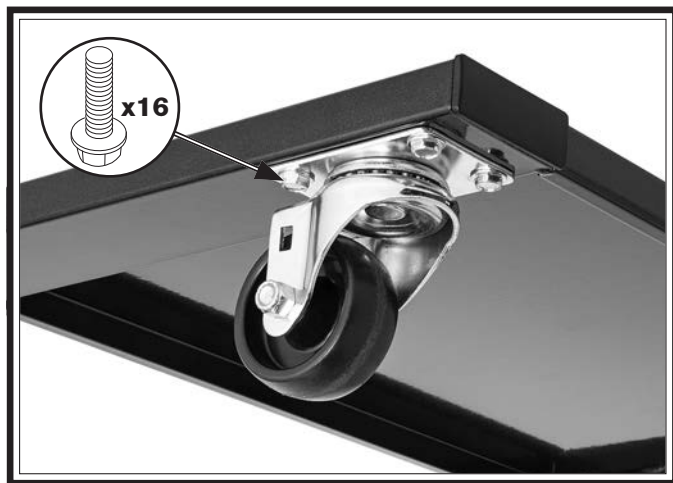

Figure 9. Swivel caster attached to base.
1. Install (2) swivel casters and (2) locking casters on base with (16) $\frac{5}{16}$ "-18 x $\frac{1}{2}$ " flange bolts (see **Figure 9**).